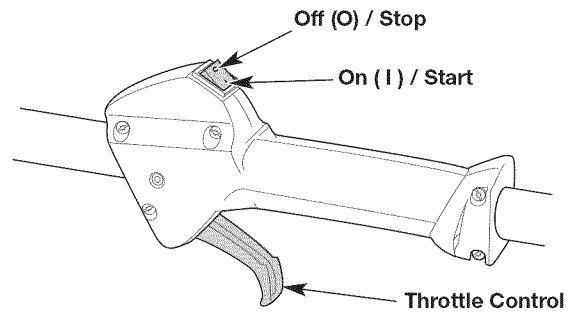
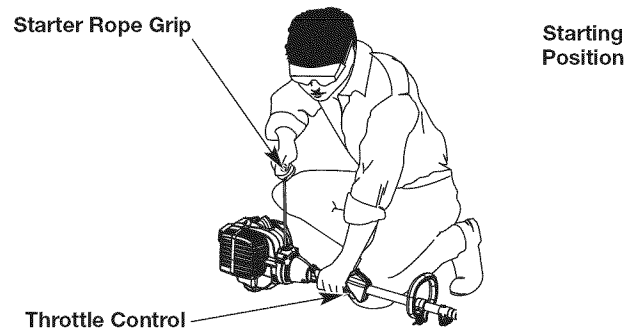

Fig. 6
Fig. 8
**WARNING:** Avoid accidentally starting the unit. To avoid serious injury, the operator and the unit must be in a stable position when pulling the starter rope (Fig. 8).
**NOTE:** There is no need to turn the unit on. The On/Off switch is in the ON ( I ) position at all times (Fig. 6).
4. Crouch in the starting position (Fig. 8).
5. Squeeze and hold the throttle control (Fig. 6). Pull the starter rope with a controlled and steady motion until the unit starts (Fig. 8).
2. Press and hold the On/Off switch in the OFF (O) position until the engine comes to a complete stop (Fig. 6).
6. Squeeze and hold the throttle control (Fig. 6). Run the Speed Start™ accessory in intervals no longer than 2 seconds each until the unit starts.